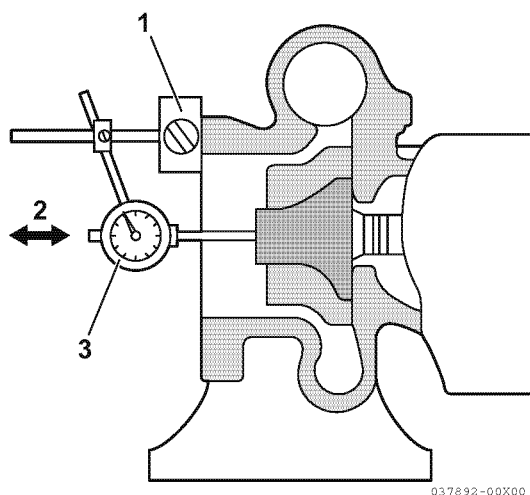

Figure 10-4
1. Set up a dial indicator as shown (Figure 10-4).